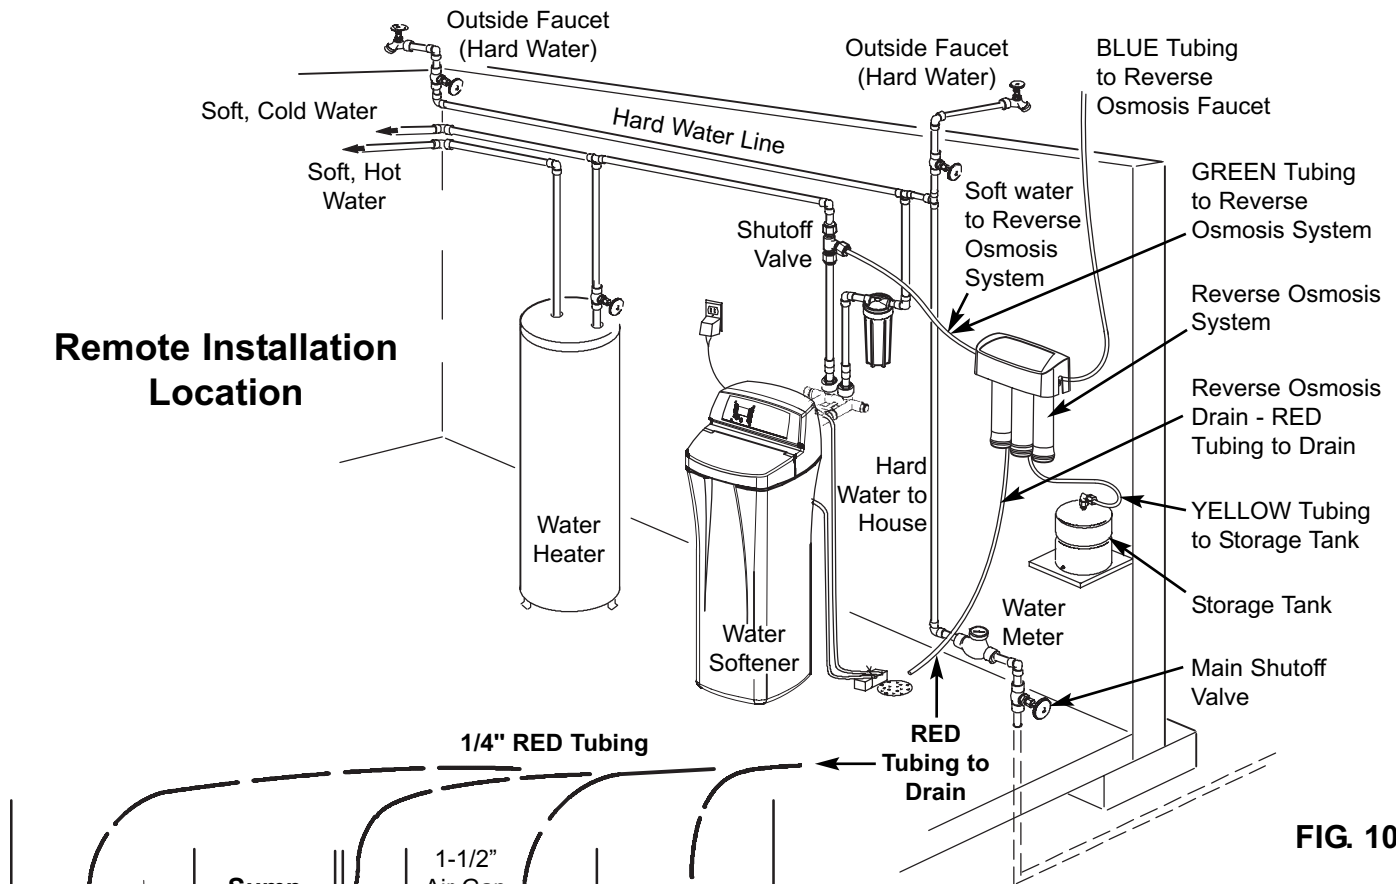

FIG. 10
(See Fig 10 & 11) This is usually used in remote location type installations. The drain tube from the Reverse Osmosis Filter runs directly to an open drain. See Fig. 10 & 11.
1. Locate the 1/4" red tubing on the Reverse Osmosis filter assembly. See Fig. 10.